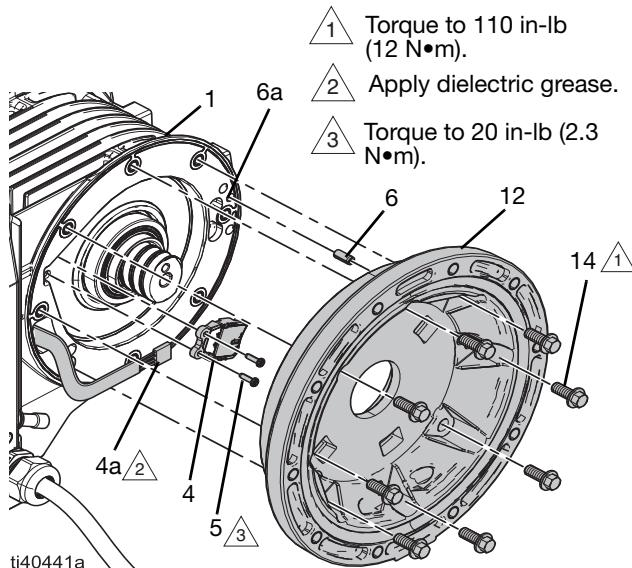

Fig. 22: Motor Sensor
2. Carefully install the sensor-side stator cap (12):
- a. Install the seal (11) in the stator cap (12).
- b. Align the pin (6) in the stator cap (12) with the pin hole (6a) on the stator housing (1) and gently insert the stator cap (12). Ensure the stator cap is properly set in place. See FIG. 22.
See FIG. 22 and FIG. 24.